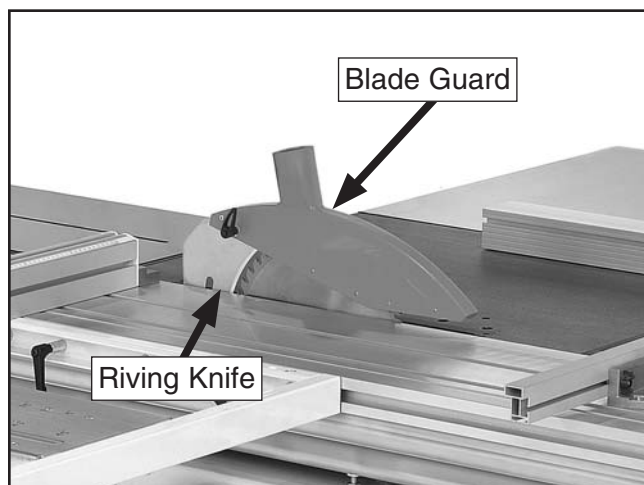

Figure 33. Installing blade guard.
- 29. Install the blade guard by sliding it over the riving knife, as shown in **Figure 33**.